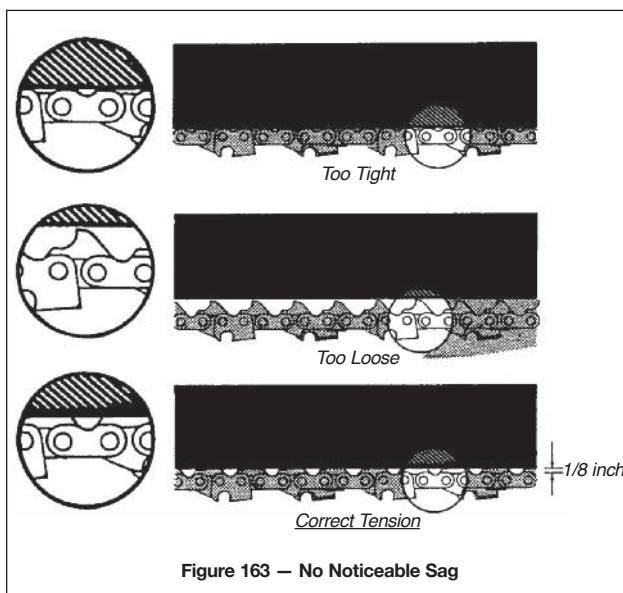

Figure 163 – No Noticeable Sag
- In general, the chain should move easily around the bar by hand without showing noticeable sag at the bottom (Figure 163).